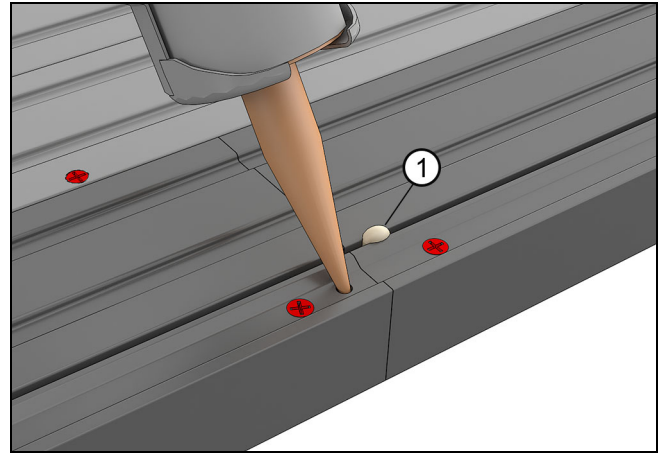

Figure 36
7. Inject sealant into the hole nearest the splice until squeeze out appears in the nearby relief hole in the nail fin kerf. See Figure 36.